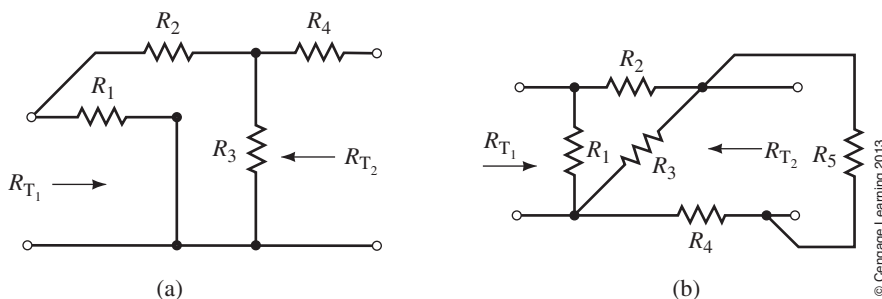

FIGURE 7-49
4. Write an expression for both R_{T1} and R_{T2} for the networks of Figure 7-49.